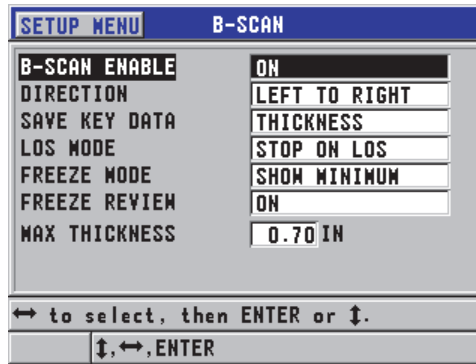

Figure 9-4 Changing B-scan parameters
The B-scan can be actively configured from the **B-SCAN** screen (see Figure 9-4 on page 154), which is accessible by pressing [SETUP], and then selecting **B-SCAN** in the menu.
1. In the **B-SCAN** screen (see Figure 9-4 on page 154), set **SAVE KEY DATA** to **THK + B-SCAN**.